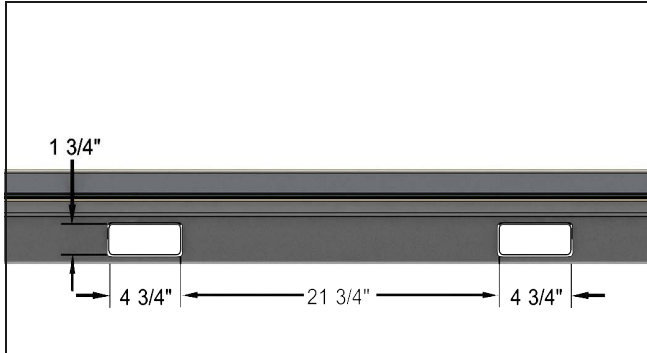

Figure 11
1. Max fork size of 4-1/2" x 1-1/2" to be used. See Figure 11.